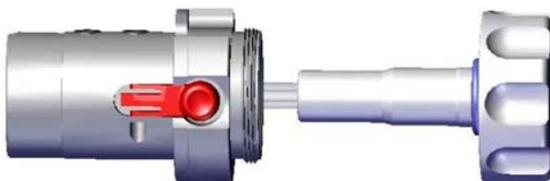

Figure 6-7. Torch assembly - center tube insertion
4. Insert the center tube assembly into the metal torch holder. See Figure 6-7.